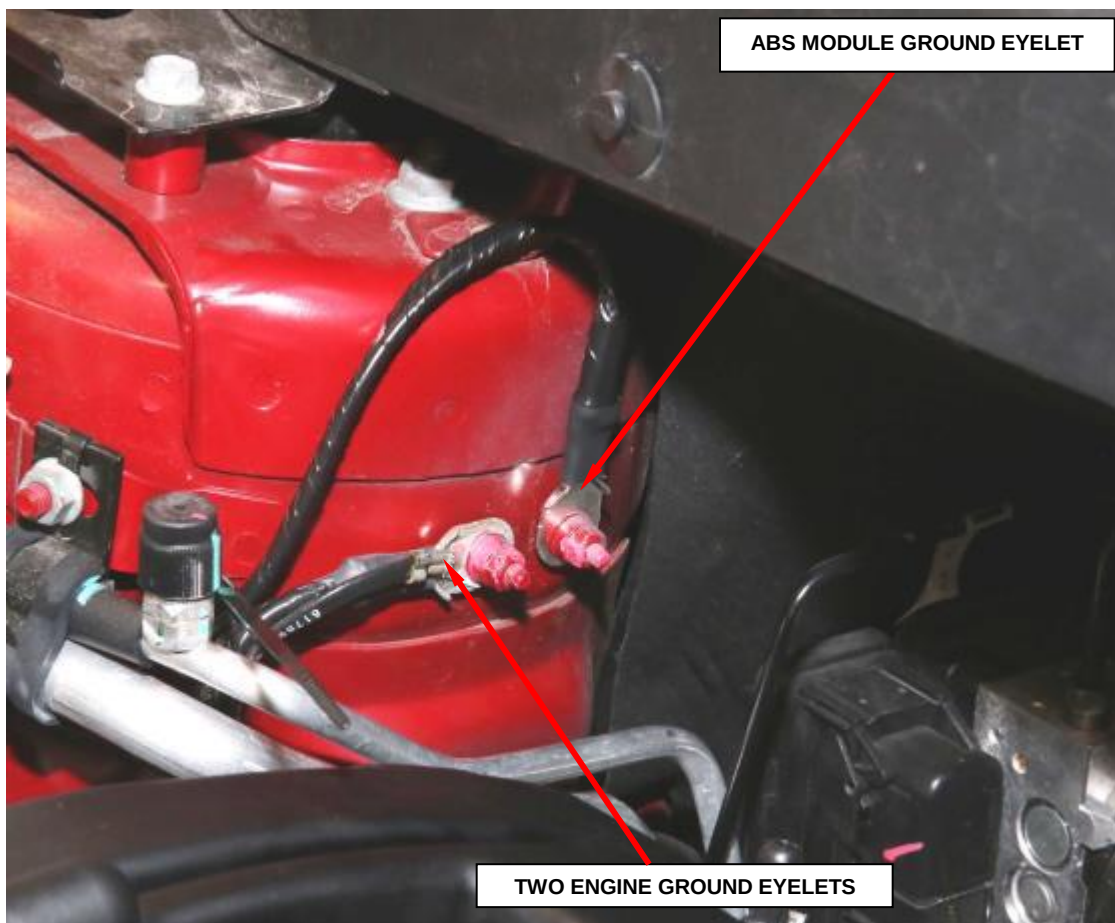

Figure 18 – Ground Eyelet Orientation
19. Position the ABS module ground eyelet (**NEW** ground circuit overlay eyelet) to the rear ground stud and the two engine ground eyelets to the forward ground stud and install the two nuts. Tighten to 7 ft. lbs. (10 N·m) (Figure 18).
NOTE: When installing a ground circuit overlay, the two ground wire eyelets must be oriented as shown in Figure 18.